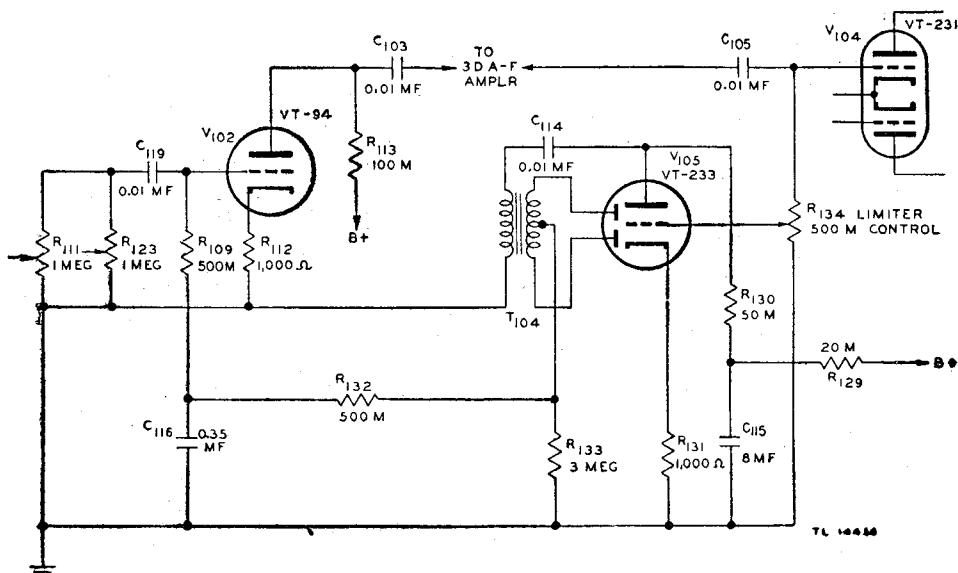

Figure 82. Modulation limiter circuit—functional diagram.
### 148. Modulation Limiter (fig. 82)
c. MODULATION LIMITER CONTROL. The LIMITER CONTROL (resistor  $R_{134}$ ) (fig. 82) is located on the front panel of the speech amplifier behind a cover plate. Its purpose is to control the amplitude of the a-f signal applied to the modulation limiter tube  $V_{105}$ . The control is provided with a slotted shaft which is accessible when the cover plate is removed. See paragraph 197 for instructions as to the proper procedure for adjusting the modulation limiter control.